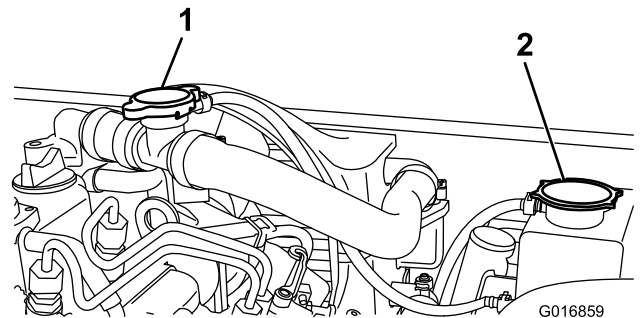

Figure 62
2. Remove the fill cap (Figure 62) and fill with coolant.
3. Replace the fill cap and remove the radiator overflow tank cap (Figure 62).
2. Remove the radiator overflow tank cap (Figure 62).